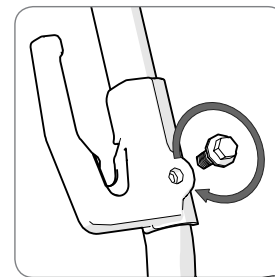

Fig 5
- Remove the two attachment bolts. (Fig. 5)